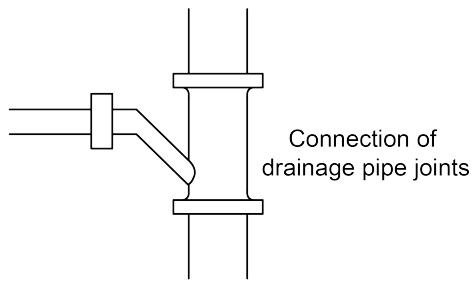

Fig.4.40
(8) Horizontal pipe can't be connected to the vertical pipe at the same horizontal height. Please see below Fig for the connection method:
- NO1: Three-way connection of drainage hose joint as shown in Fig.4.40;